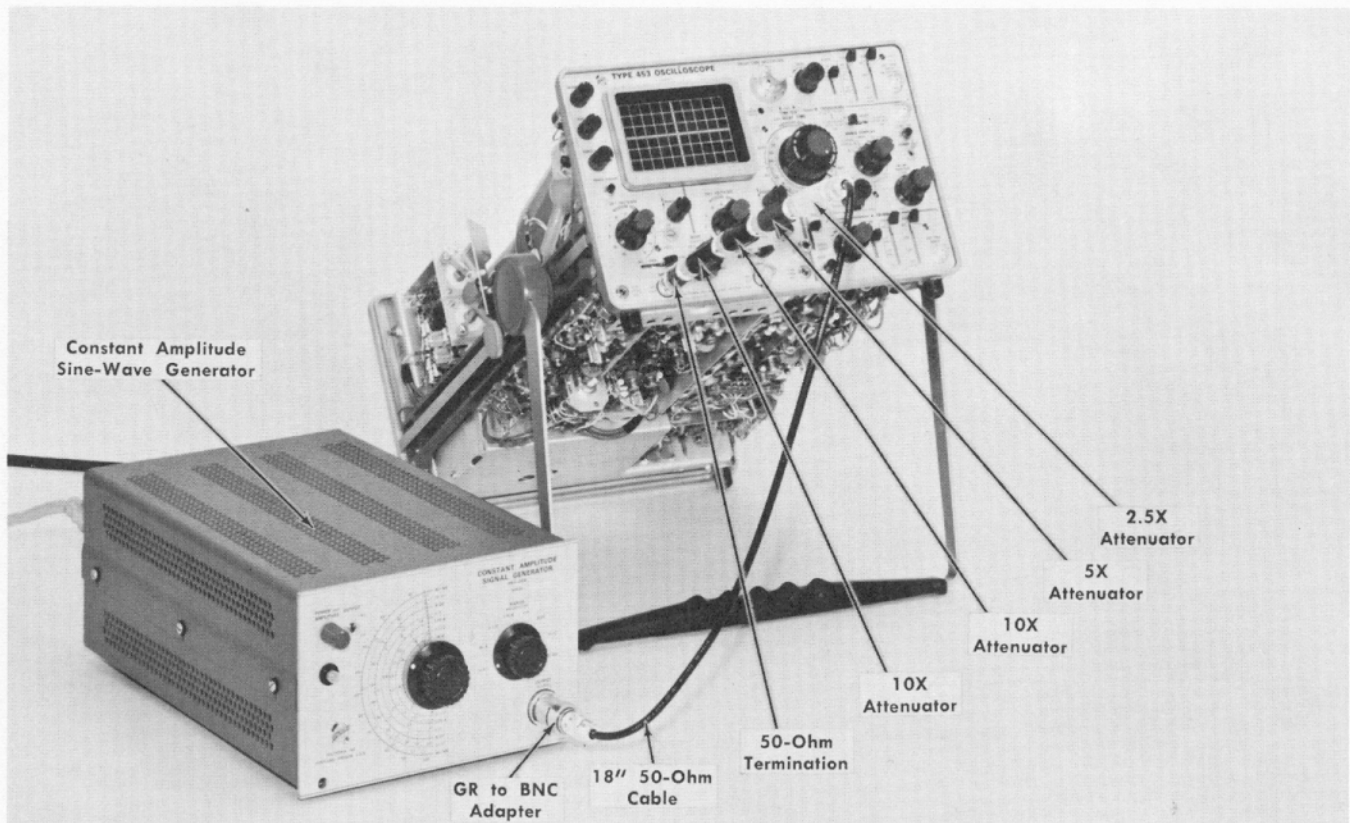

Fig. 6-33. Initial test equipment setup for steps 29 and 30.
①
- a. Test equipment setup is shown in Fig. 6-33.